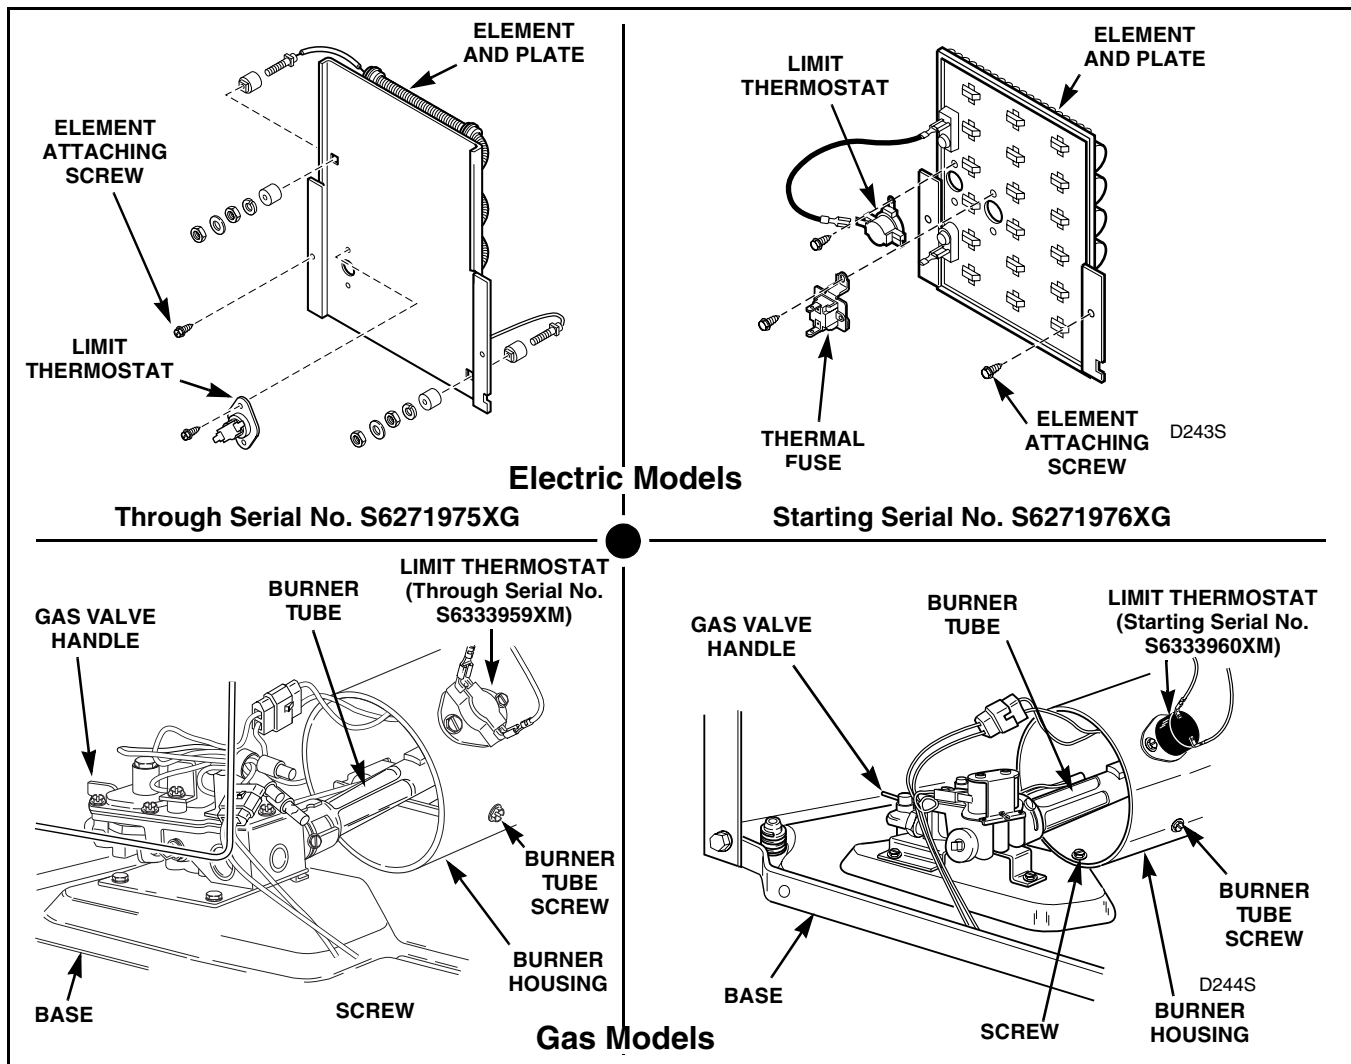

Figure 19
- d. Disconnect wires and remove screws attaching limit thermostat to burner housing or element plate. Refer to *Figure 19*.
- Remove two screws holding element and plate to heater box and pull element down and away from heater box. Refer to *Figure 19*.
- Remove screws holding thermostat (and thermal fuse, if present) to element and plate. Refer to *Figure 19*.